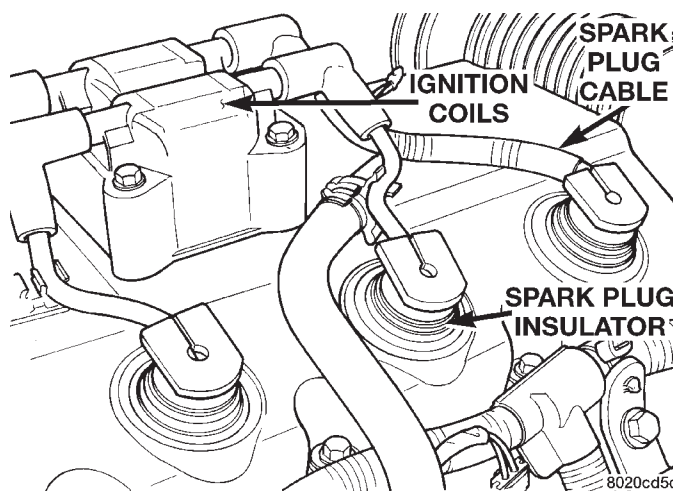

Fig. 23 Ignition Coil Pack
- (2) Remove ignition coil pack (Fig. 23).
- (3) Remove the cylinder head cover bolts.
- (4) Remove cylinder head cover from cylinder head.